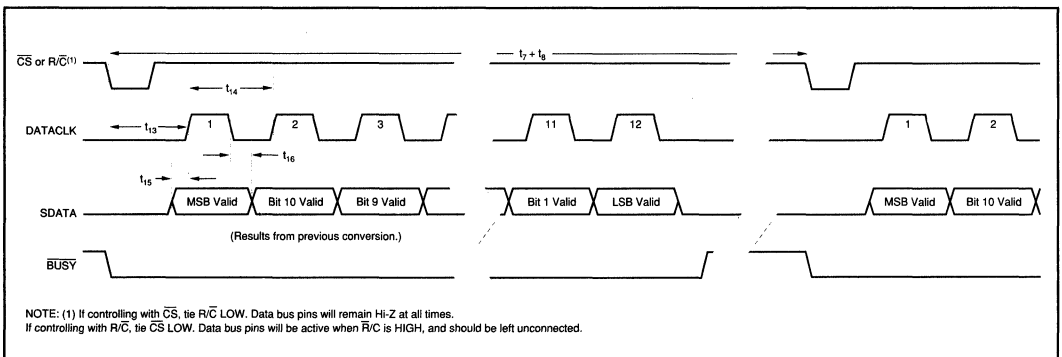

FIGURE 4. Serial Data Timing Using Internal Data Clock (TAG tied LOW).
NOTE: (1) See Figures 4, 5, and 6 for constraints on data valid from conversion "n-1".
To use the internal data clock, tie $\overline{EXT}/\overline{INT}$ (pin 8) LOW. The combination of R/\overline{C} (pin 22) and \overline{CS} (pin 23) LOW will initiate conversion 'n' and activate the internal data clock (typically 900kHz clock rate). The ADS7806 will output 12 bits of valid data, MSB first, from conversion 'n-1' on SDATA (pin 19), synchronized to 12 clock pulses output on DATACLK (pin 18). The data will be valid on both the rising and falling edges of the internal data clock. The rising edge of \overline{BUSY} (pin 24) can be used to latch the data. After the 12th clock pulse, DATACLK will remain LOW until the next conversion is initiated, while SDATA will go to whatever logic level was input on TAG (pin 20) during the first clock pulse. Refer to Table VI and Figure 4.